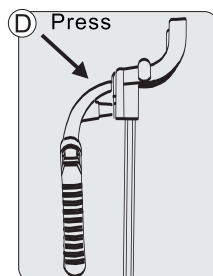

Figure 10
3. Press and fasten the hook(D) vertically. (Figure 10)